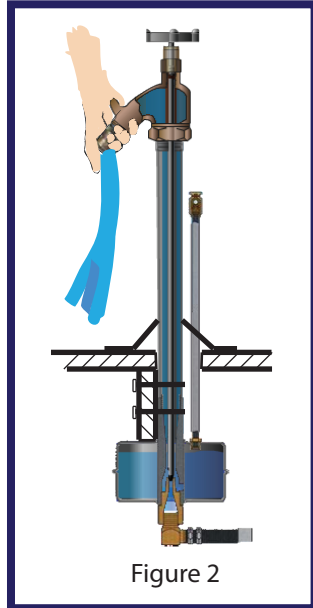

Figure 2
- Operate hydrant at partial flow with thumb over outlet until the water pressure forces past thumb. (Figure 2).